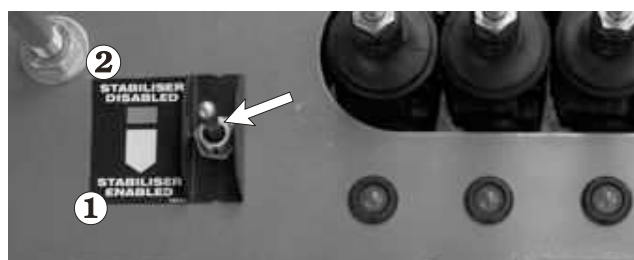

Figure 11.3 - Stabiliser Enable Switch
In order for the stabilisers to function an additional switch (see Figure 11.3) needs to be operated. This switch (mounted adjacent to the stabiliser valve levers) must be held in the stabiliser enabled position ① while the individual stabiliser valves are operated. When released it will automatically return to the stabiliser disabled position ②.